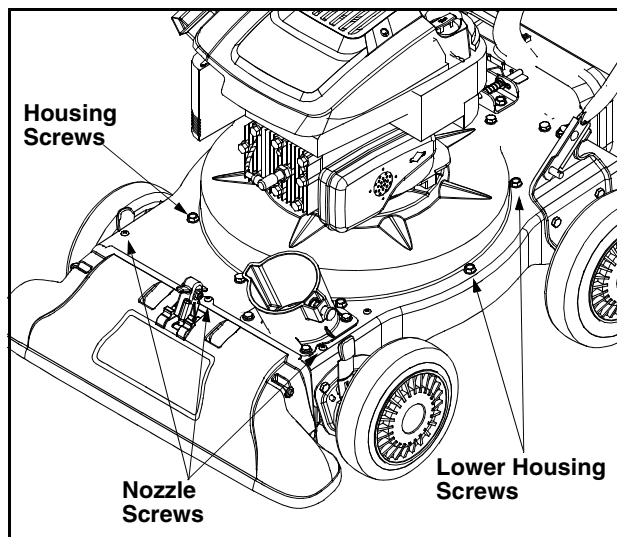

Figure 18
- Remove the three screws on the upper housing that secure the nozzle cover and the nine screws that secure the lower housing to the upper housing. See Figure 18.